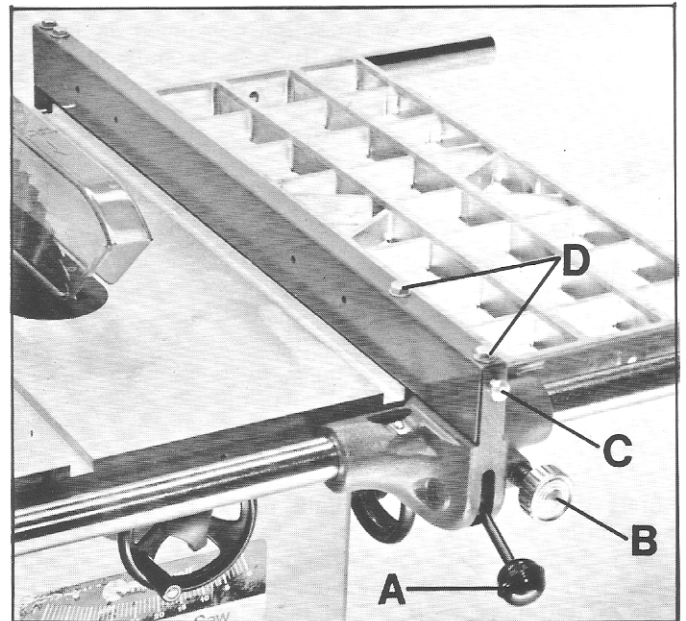

Fig. 31
To move the rip fence, raise the clamp lever (A) Fig. 31, as far as it will go and move the fence to the desired position on the table. For fine movement of the rip fence, raise the clamp lever (A) Fig. 31, as far as it will go and push in and turn the "micro-set" knob (B).
When the clamp lever (A) Fig. 31, is all the way down, clamping action on the front and rear guide rails should be equal. If clamping action on the rear guide rail is more or less than clamping action of front guide rail, an adjustment of the rear clamp hook is made by turning screw (C) Fig. 31. Turning the screw (C) clockwise will increase tension and turning it counter-clockwise will decrease tension. When lowering clamp lever (A) slowly, you will notice clamp action on front guide rail first and as lever is moved downward to its lowest position, clamp action will take place on rear guide rail.
Your machine is shipped from the factory with the table adjusted so the miter gage slots are parallel to the saw blade. The fence, therefore, should be adjusted so it is parallel to the miter gage slots. To check the rip fence, set it at one of the miter gage slots and tighten the clamp lever (A) Fig. 31. If an adjustment is necessary, loosen the two front cap screws (D) Fig. 31 and raise the clamp lever (A). Move the rear end of the fence body to one side or the other until it is parallel with the miter gage slot. Then lock the clamp lever (A), by pushing it down, and tighten the two clamp screws (D).